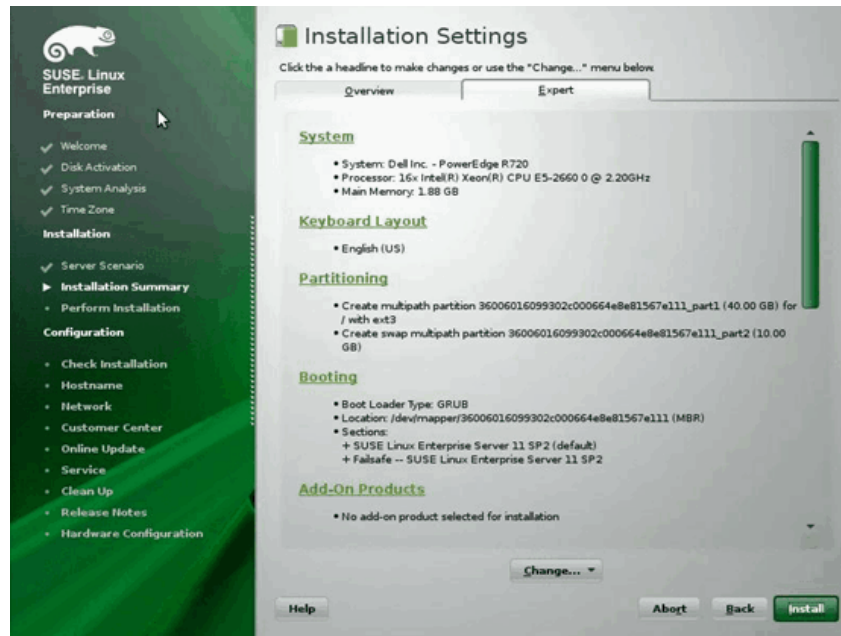

Figure 13-19. Installation Settings
12. On the Expert page on the Installation Settings window, click **Booting** (Figure 13-19).